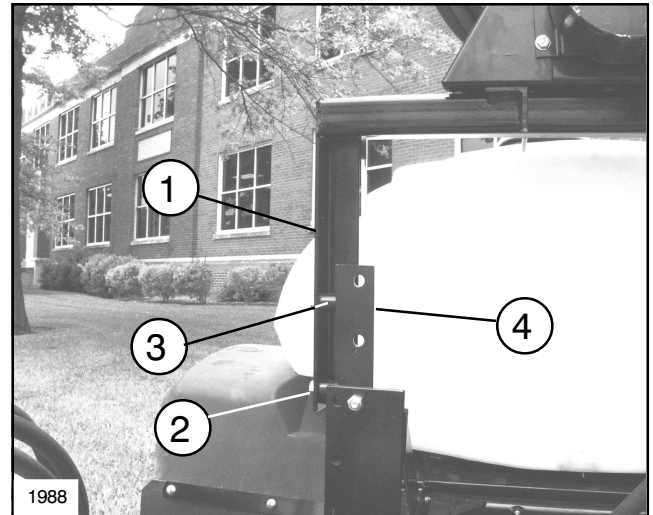

FIG. 2
4. Install the Hose Reel Mounting Bracket to the Boom Uprights using the 1" spacers and 1/2 x 2" Bolts with Flange Nuts. See FIG. 2.